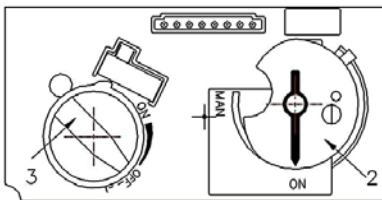
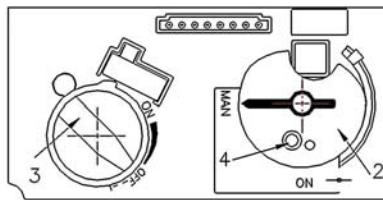
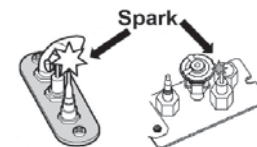

Fig 1
Fig 2
Fig 3
2. SET ON/OFF SWITCH (1) TO "OFF" POSITION.
- Wait five (5) minutes to clear out any gas, then smell for gas, including near the floor. If you smell gas, STOP! Follow "B" in the safety information above on this label. If you don't smell gas, go to the next step.
3. **AUTOMATIC IGNITION** (fig. 1): Locate the pilot (fig 3.) inside of firebox at Left Hand side.
- ON/OFF switch (1) in ON position, MAN-knob (2) in ON position; set Flame Adjustment knob (3) to lowest setting (∩);
- When the pilot is lit, the Flame Adjustment knob (3) will automatically rotate to the highest setting.
4. **MANUAL IGNITION** (fig. 2): With the window off, locate the pilot (fig. 3)
- ON/OFF switch (1) in ON position, MAN-knob (2) in MAN position;
- Set Flame Adjustment knob (3) to the lowest setting (∩);
- Push down the metallic core (4) with a pen or similar instrument; this will establish the pilot gas flow;
- Light gas at the pilot (5) with a match;
- Continue holding down metal core (4) for about 10 seconds; after release, pilot should remain lit;
- If the pilot will not stay lit after several tries, turn the gas control knob (3) to "OFF" (∩) and call your local service technician or gas supplier.